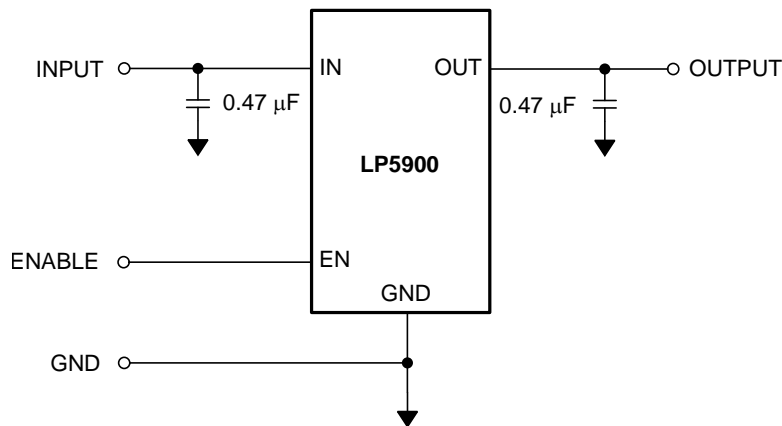

Figure 16. LP5900 Typical Application
Unless otherwise noted, specifications apply in Figure 16 with:  $V_{IN} = V_{OUT(NOM)} + 1\text{ V}$ ,  $V_{EN} = 1.2\text{ V}$ ,  $C_{IN} = C_{OUT} = 0.47\text{ }\mu\text{F}$ ,  $I_{OUT} = 1\text{ mA}$ .(1)(2)
Figure 16 shows the typical application circuit for the LP5900. Input and output capacitances may need to be increased above the 0.47- $\mu$ F minimum for some applications.